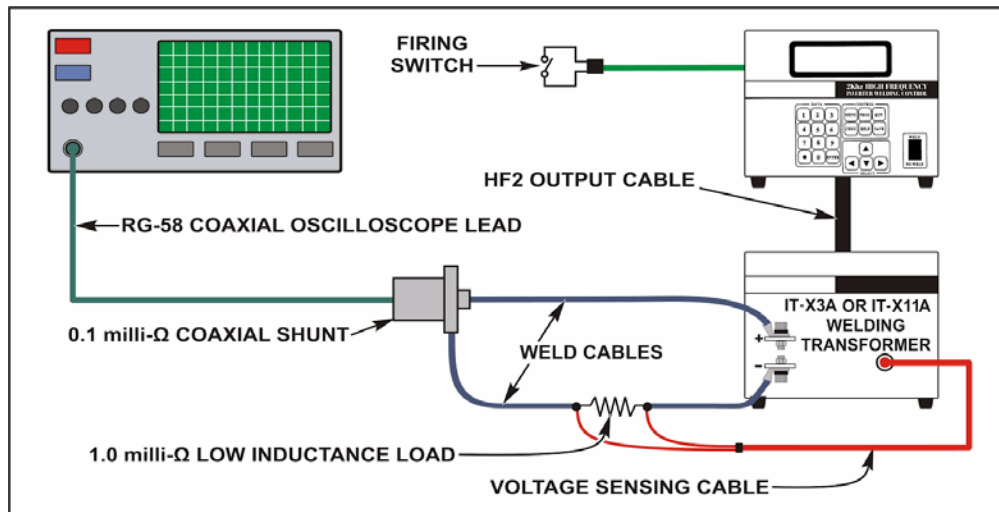

Figure 1
1. Connect the HF2, transformer and test equipment as detailed in Figure 1.
1. Program a schedule with a **BASIC WELD** function, 20ms, 0.7V. Make sure the voltage sense cable leads are connected across the 1.0 milliohm load (see Figure 1).